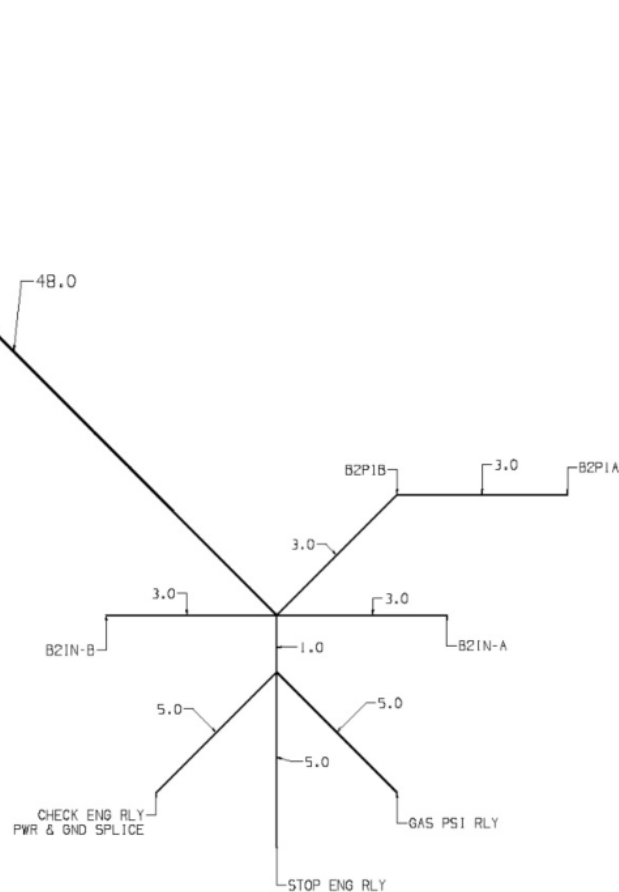

Figure 3: New jumper harness assembly with relays (PN 859845)
- Using the new jumper harness assembly (PN **859845**), connect jumper B2P1A and B2P1B between B2 module and B2P1. Refer to Figure 3.